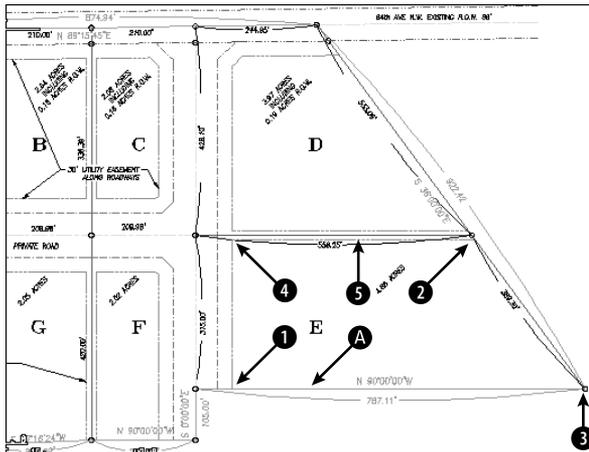
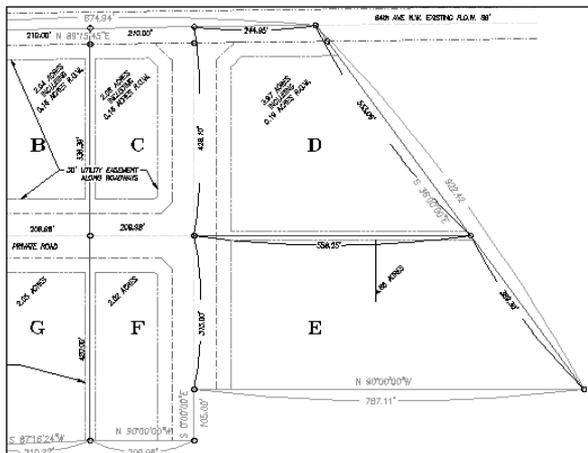

Figure 12-15: Parcels D and E in the civil engineering drawing.
Figure 12-16: Using CAL, you can calculate the intersection of two lines without drawing the lines.
3. If you did not do the previous exercise, use `ZOOM Window` to zoom in on the parcels labeled D and E, as shown in Figure 12-15.
5. In the Step-by-Step exercise on the DIVIDE command earlier in this chapter, you divided a line into three segments by placing two points on the line. You can use CAL to calculate the length of those segments. Type **cal** ↵. At the Expression: prompt, type **abs(end-end)/3** ↵. The command prompts you for the two endpoint snaps. Pick the two ends of the line at **(A)** in Figure 12-15. AutoCAD calculates 262.37.
6. Suppose that you want to draw a line starting from the intersection of two intersecting lines going from corner to diagonally opposite corner and ending perpendicular to the top line of the land parcel. Start the LINE command. At the Specify first point: prompt, type **'cal** ↵. At the Expression: prompt, type **ill(end,end,end)** ↵. The command prompts you for four endpoints. Pick the endpoints (in Figure 12-15) at **1** and **2** to define the first line, and then at **3** and **4** to define the second line. AutoCAD starts the line at the intersection of the two lines. At the Specify next point or [Undo]: : prompt, choose the Perpendicular object snap and pick **5**. Figure 12-16 shows the result.